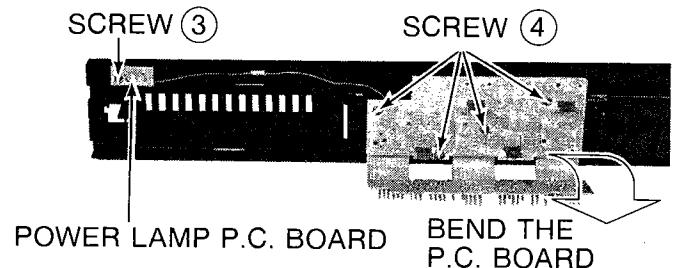

Fig. 14c — Auxiliary Control Board PW4200
1. Remove one (1) screw holding Power L.E.D. Circuit board to the front panel, (Fig. 14c).